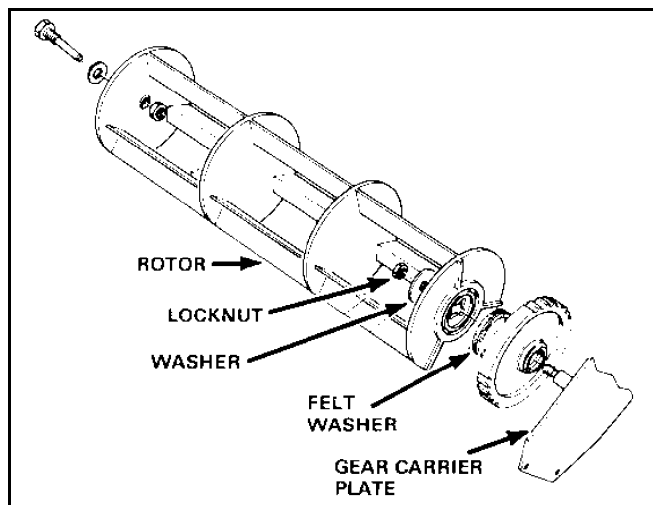

Figure 239
2. Remove the locknut and washer from the opposite end (Figure 239).
3. Remove the rotor and felt washer (Figure 239).